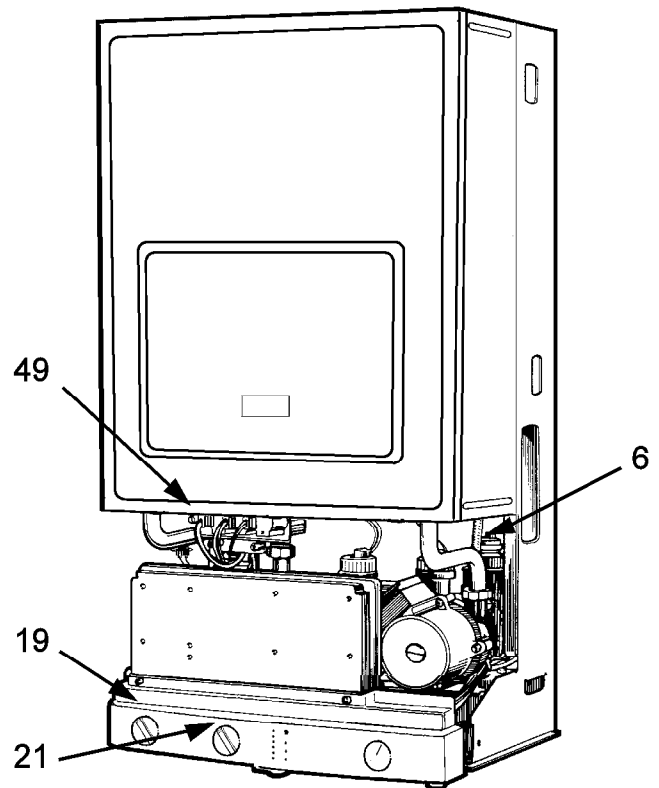

Fig. 20
- Turn selector switch (19 Fig. 20) to heating and hot water position
- Turn the boiler thermostat to maximum (21 Fig.20).